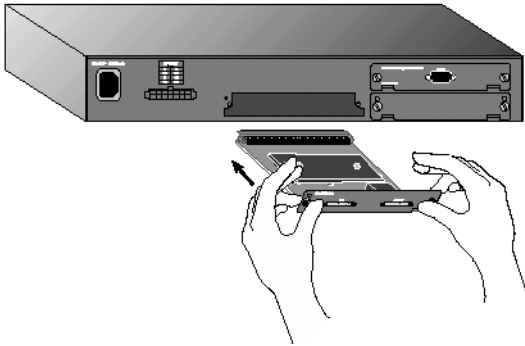

Figure 2 Installing the Module
3. Insert the AT-BSTACK1 module into the expansion slot, as shown in Figure 2. Holding the new module with the text on the front panel upright, carefully slide the module into the switch slot, ensuring that the edge connector is fully engaged. Once the module is installed, check to be sure that the front panel of the module is flush against the switch.